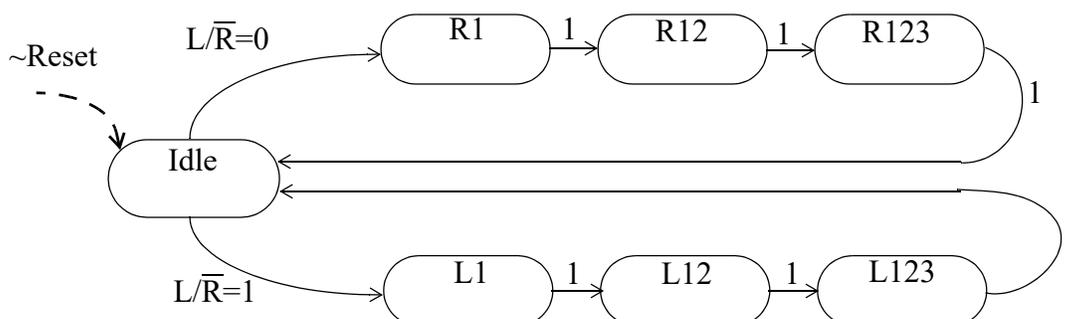

Fig 2: State diagram for the Detour Signal design
We provide a switch (L/\bar{R}) to choose the “detour-left” or “detour-right” action. The state machine (Figure 2) only looks at the switch during the Idle state. It then proceeds through a series of states (detour left or detour right) and then returns to the Idle state.
6.2 Read the *detour* schematic page 11 at the end of this lab handout. This is an incomplete implementation of the state machine. **Complete the design** by adding additional state memory (flip-flops), next state logic, and output function logic. Notice the two different types of flip-flops used -- FDP and FDC. Determine the difference between them. Please note that this schematic lab was originally designed for Nexys-3 which has Spartan 6 FPGA. So, let us continue to refer to the Spartan 6 library of components for completing this schematic by hand. Please refer to Spartan-6 Libraries Guide for Schematic Designs UG616. Your completed paper design must implement the state machine in Figure 2 and then produce the four output signals (**OFL**): **GL**, **G1**, **G2** and **GR**.